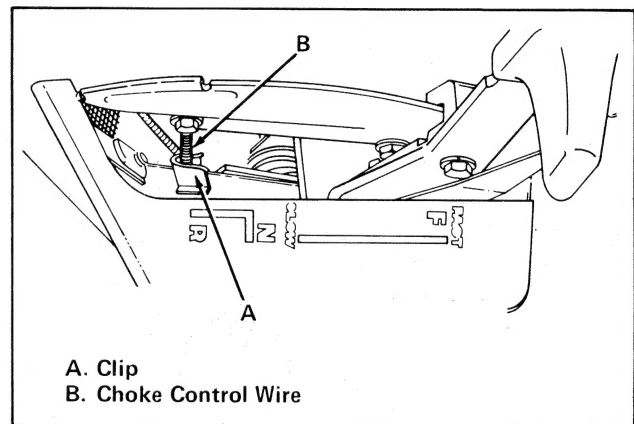

Figure 27. Secure Choke Control Wire
16. After the control panel is installed, a clip (item A, figure 27) must be placed on the choke control wire (item B). This will prevent the wire from catching on the hydrostatic transmission control.